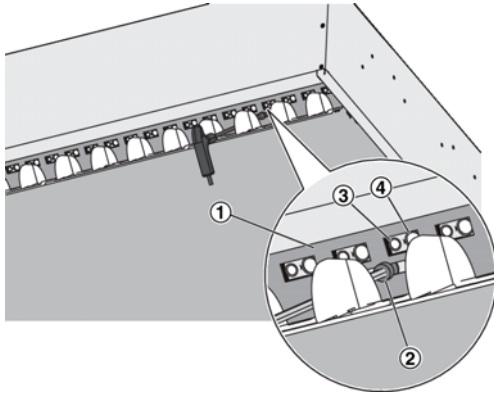

Fig. 15: Adjusting the nozzles on the DID642
1. ▶ Loosen the Allen screws (SW4) (Fig. 15/2) of the flat adjustment bar (Fig. 15/1).
- small nozzle open (Fig. 15/3) (DS)
- large nozzle open (Fig. 15/4) (DB)